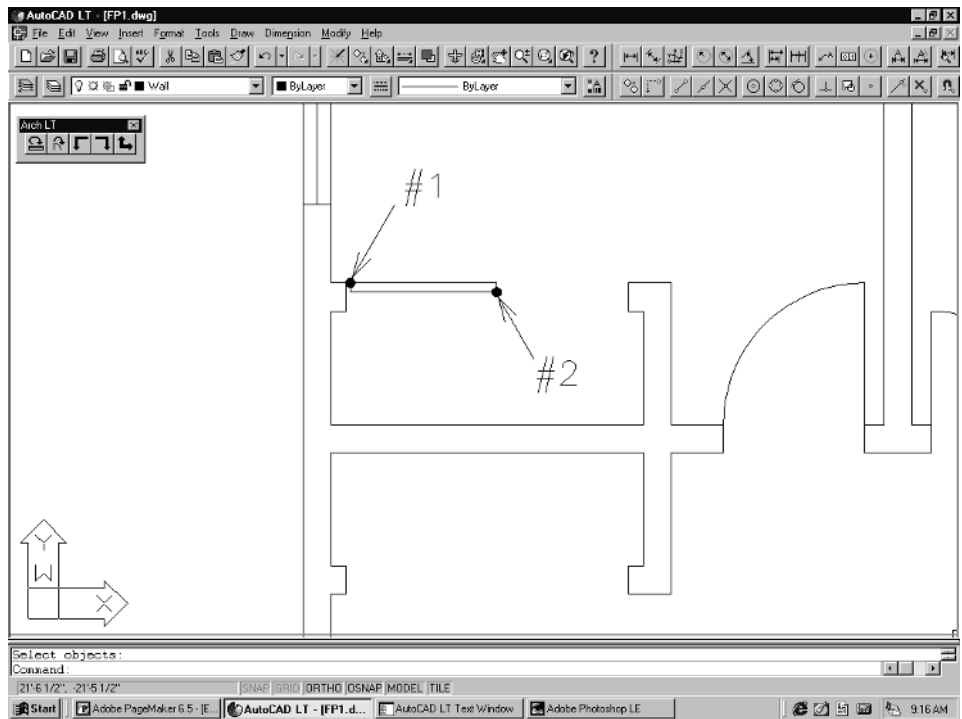

Figure 2-58
2. Next, pick the **Rectangle** command from the Draw pull-down menu. Pick the corner points as shown in Figure 2-58 (#1 and #2). These do not have to be exact, as this is only meant to represent a door. The opening must be dimensionally correct, but the door panels themselves are only for representational purposes. The door label or tag will indicate the size on the finished plan.
3. When the first panel is drawn, use the Copy command to create the other door panel. First, turn Ortho off (F8). Pick **Copy** from the Modify pull-down menu. At the *Select objects* prompt, pick the first panel and **Enter**. At the *Base point* prompt, pick a point near the first door panel. For the *Second point of displacement* prompt, pull the copied door panel into position as indicated in Figure 2-58 and pick with the left button. Hit the **Esc** key to exit the Copy command.